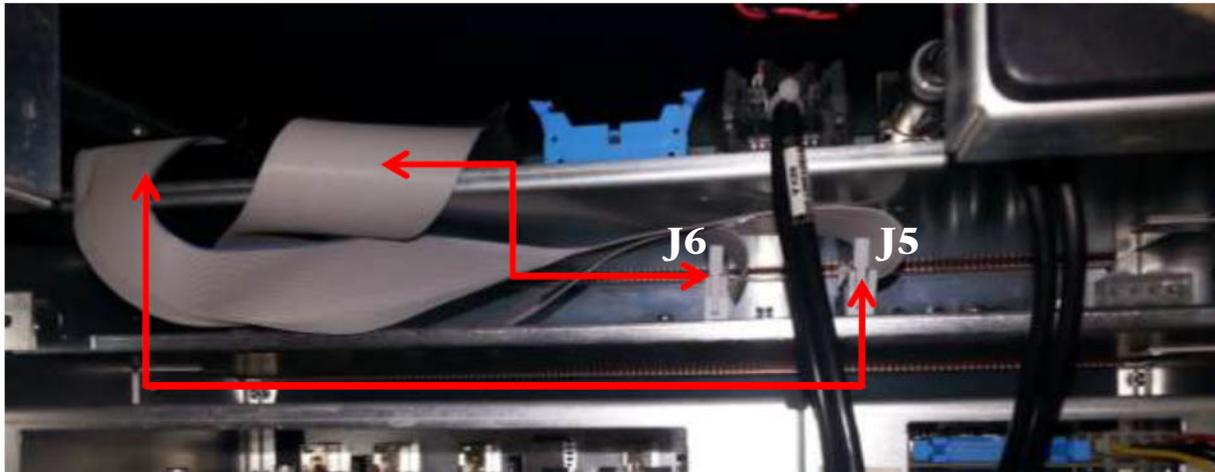

Figure 2-25 Ribbon cables connecting the Dugan-VN16 card to the I/O card
8. Attach another cable between the two connectors shown in Figure 2-25.